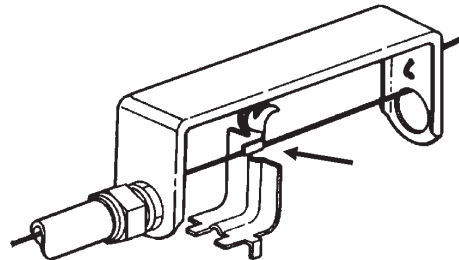

FIGURE 21
7. Starting at the terminal detector, place the small tab of the detector linkage onto the wire rope. See Figure 21.